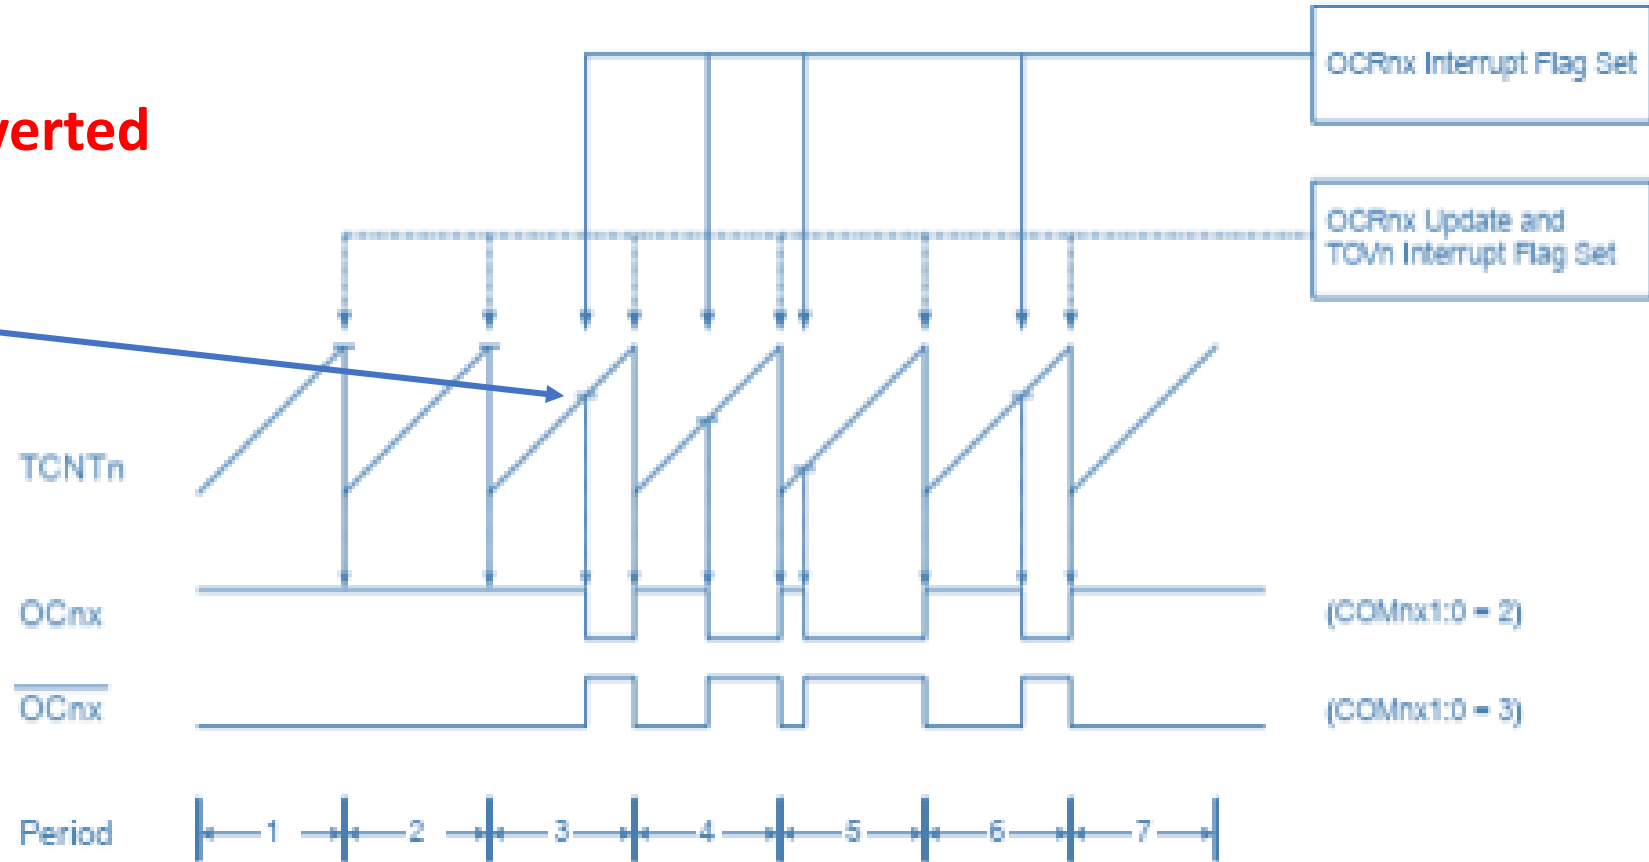

Fig. 12.6 Timing Diagram of Fast PWM Mode
- The timing diagram for the **Fast PWM Mode** is shown in Figure 12.6.